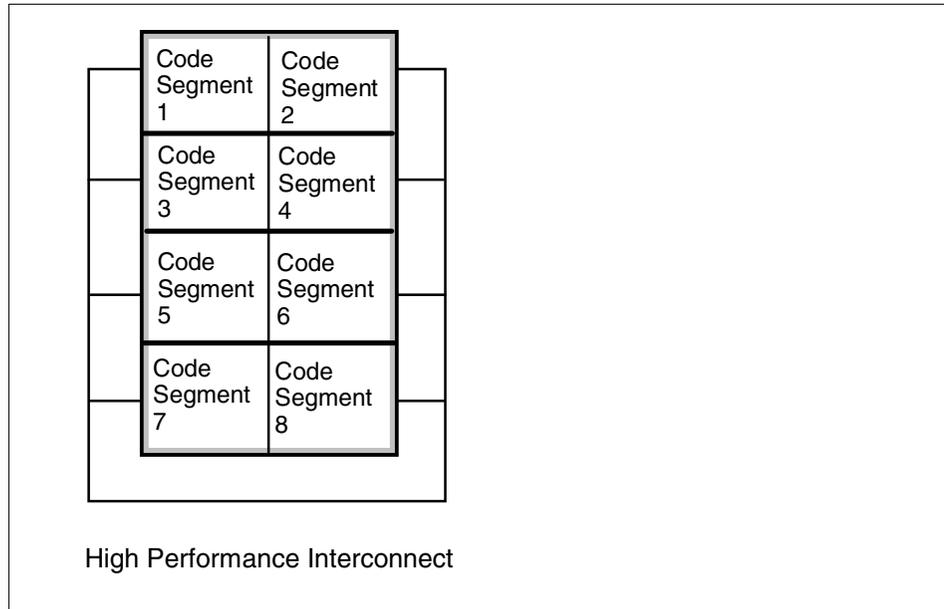

Figure 1-6 High performance technical computing cluster
- Figure 1-6 illustrates a high performance technical computing cluster.